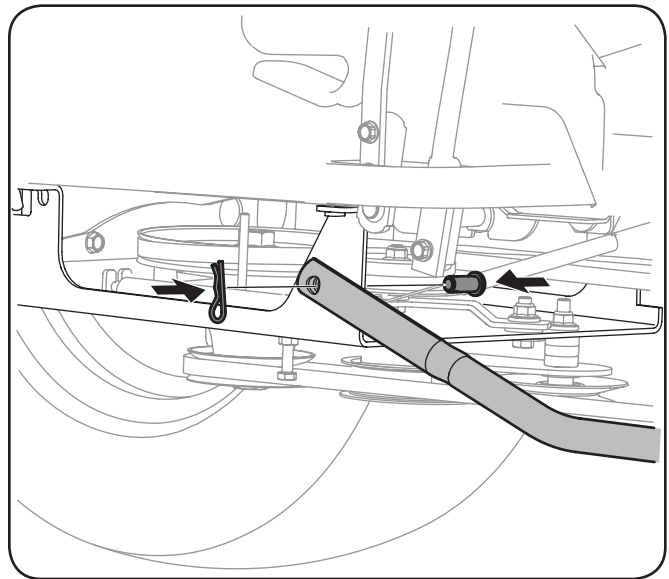

**Figure 3-16**
5. Maneuver the auger housing until the mounting holes line up. Insert the two quick release pins from your hardware pack into the top hole on each side as seen in Fig. 3-16.